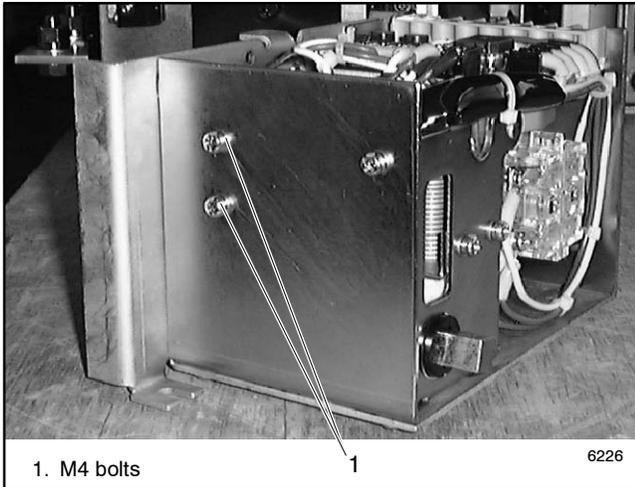

Figure 6-18 Select Coil Assembly Bolts
- Remove two M4 bolts shown in Figure 6-18 and remove the select coil assembly.